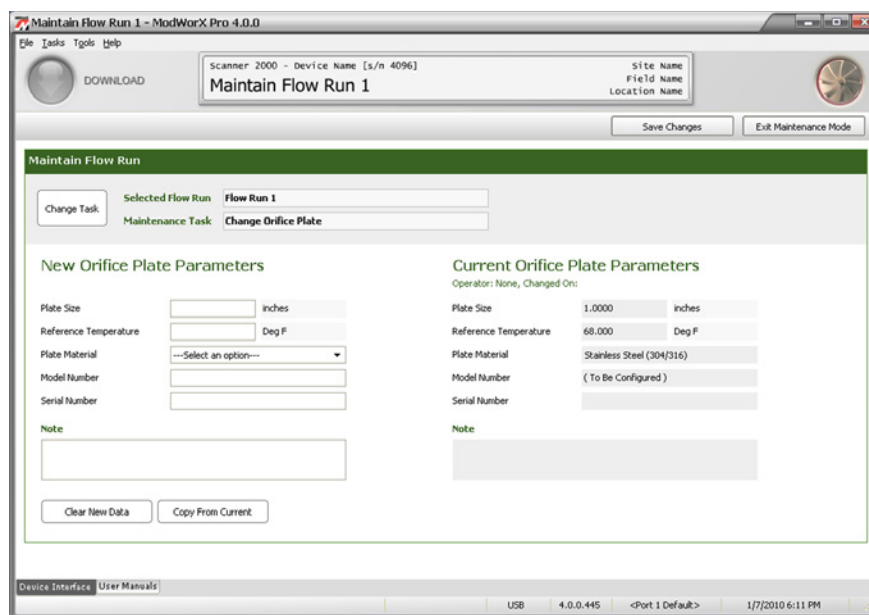

Figure 9.5
- Click **OK** to save your selections and return to the Maintain Flow Run screen (Figure 9.5, page 127).